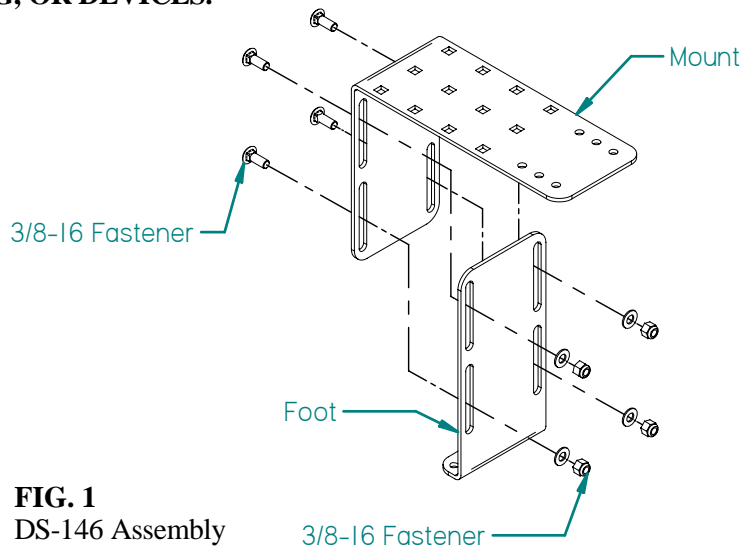
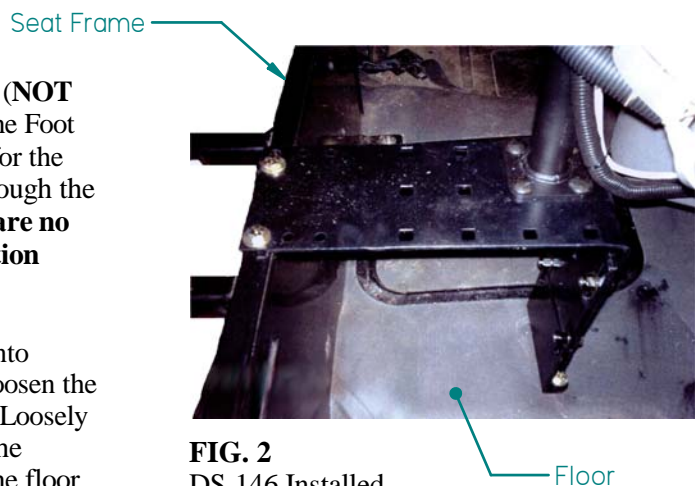

FIG. 1
FIG. 2
1. Loosen the 3/8-16 fasteners (carriage bolts and nuts, see **FIG. 1**). Place the assembly in the vehicle and find the desired position. Use this position to adjust the height of the base so that it will rest flat on the two points of contact with the seat frame and the floor (see **FIG. 2**).
3. Loosely assemble the appropriate length fasteners (**NOT INCLUDED**) and the base to the seat frame. With the Foot (see **FIG. 1**) resting on the floor, mark the locations for the holes, remove the assembly and drill completely through the floor of the vehicle. **Again, make sure that there are no interfering components of the vehicle in the position chosen for mounting.**